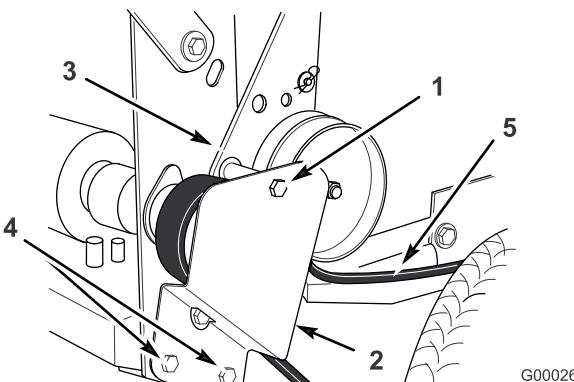

Figure 48
1. Remove the top bolt securing idler support and idler bracket to rear frame (Figure 48).
2. Loosen bottom two mounting screws enough to allow belt to pass between drive pulley and idler support (Figure 48).
5. Install the top bolt securing the idler support and idler bracket to the rear frame (Figure 48).
6. Tighten the bottom two mounting screws enough to allow the belt to pass between the drive pulley and idler support (Figure 48).